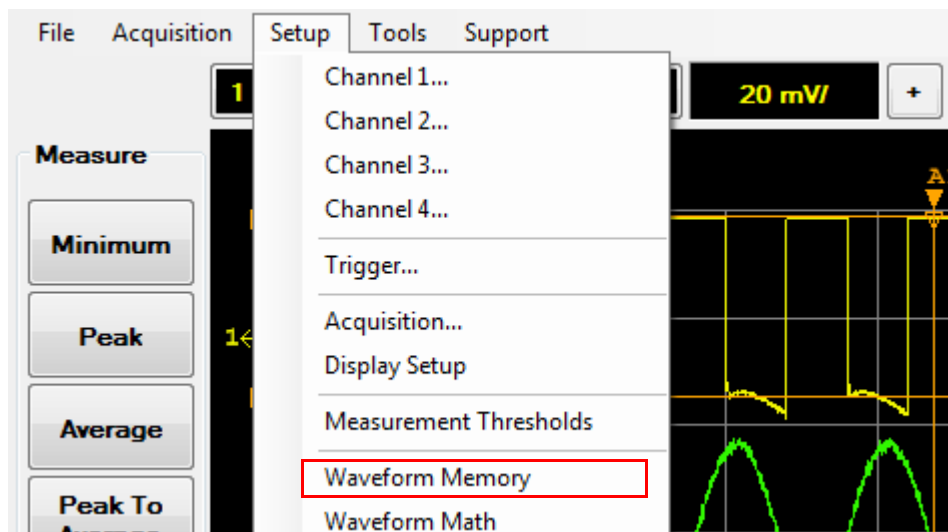

Figure 2-45 Waveform memory selection in the Setup menu
- 1 Select **Setup > Waveform Memory** on the toolbar as shown in Figure 2-45.